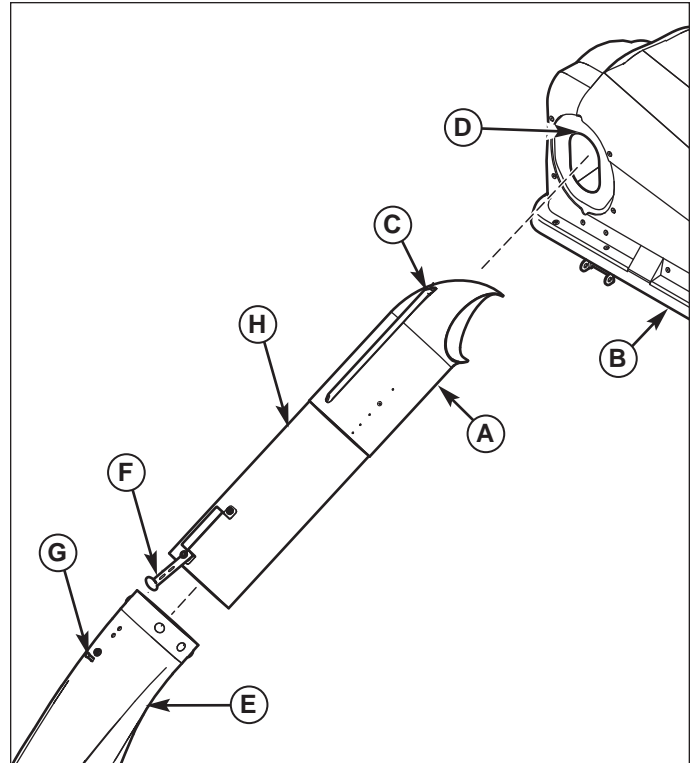

Figure 10. Connecting Tube Assembly to Lower Chute and Cover
1. Slide the upper tube (A, Figure 10) into cover (B) aligning ridge (C) with cutout (D) as shown.
2. Slide tube assembly (H) over lower chute (E). Secure tube assembly (H) to lower chute (E) using strap (F) and pin (G).